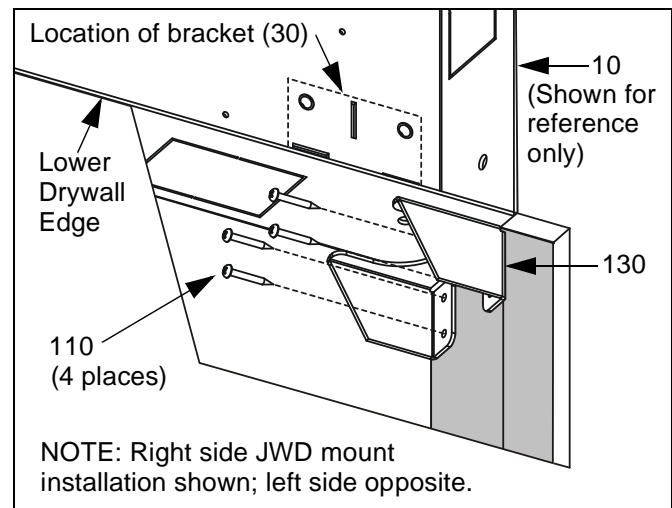

Figure 3: Option 1 - Prepare Cavity for Housing
1. Prepare cavity for housing (10):
- Option 1: Position bracket (130) against inner surface of stud, slightly above lower drywall edge (See Figure 3). Ensure bracket (130) is located below corner of housing (10) where bracket (30) will be installed. Using Phillips screwdriver, install four screws (110). Tighten securely.